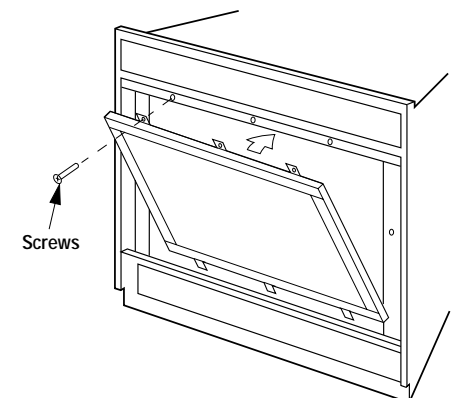

Figure 18
Step 14. Installing the Hood Assembly – Attach the hood assembly over the firebox opening with three (3) screws.
Step 15. Installing the Screen Assembly – Position the screen assembly in front of the firebox opening, with the joint in the gasket down (Figure 18). Locate the three (3) tabs at the bottom edge of the frame into the three (3) brackets at the base of the fireplace front opening. Lean the frame back towards the fireplace. Install the three (3) 1/4"-20 x 1" Phillips pan head screws removed previously and tighten to secure.